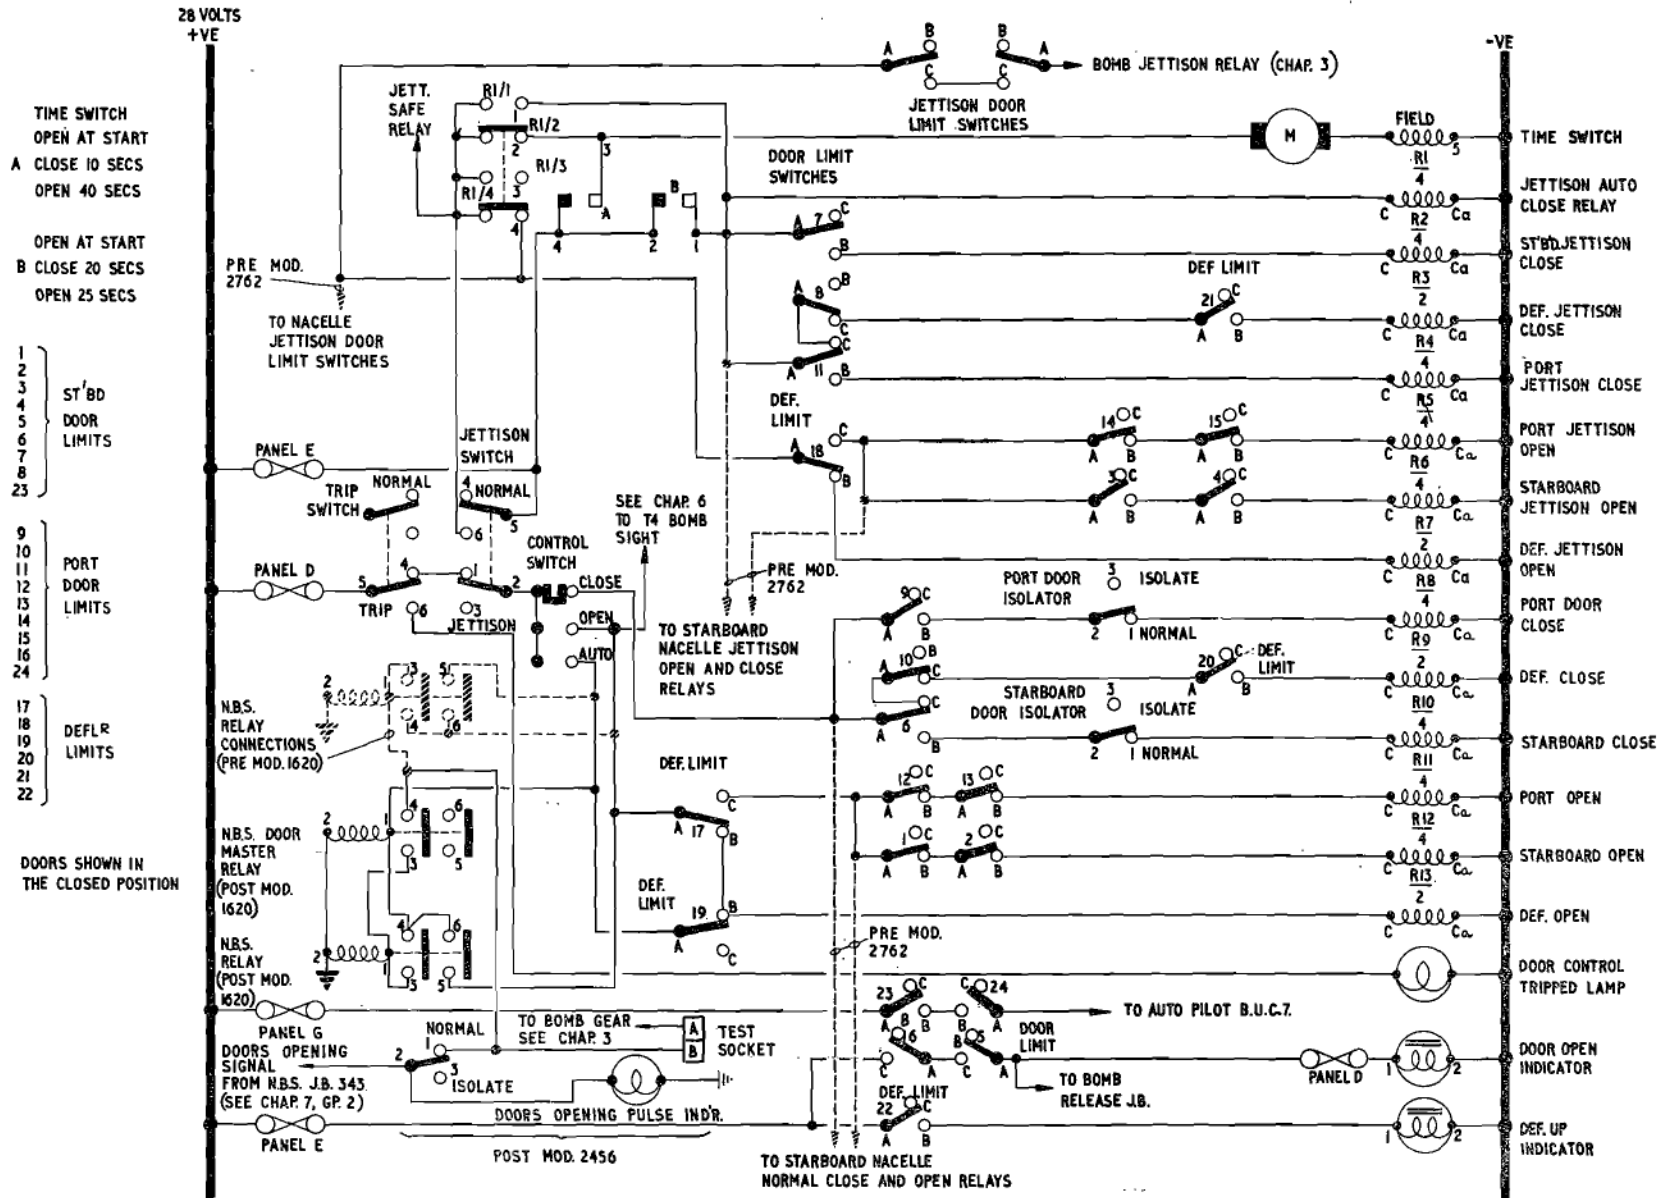
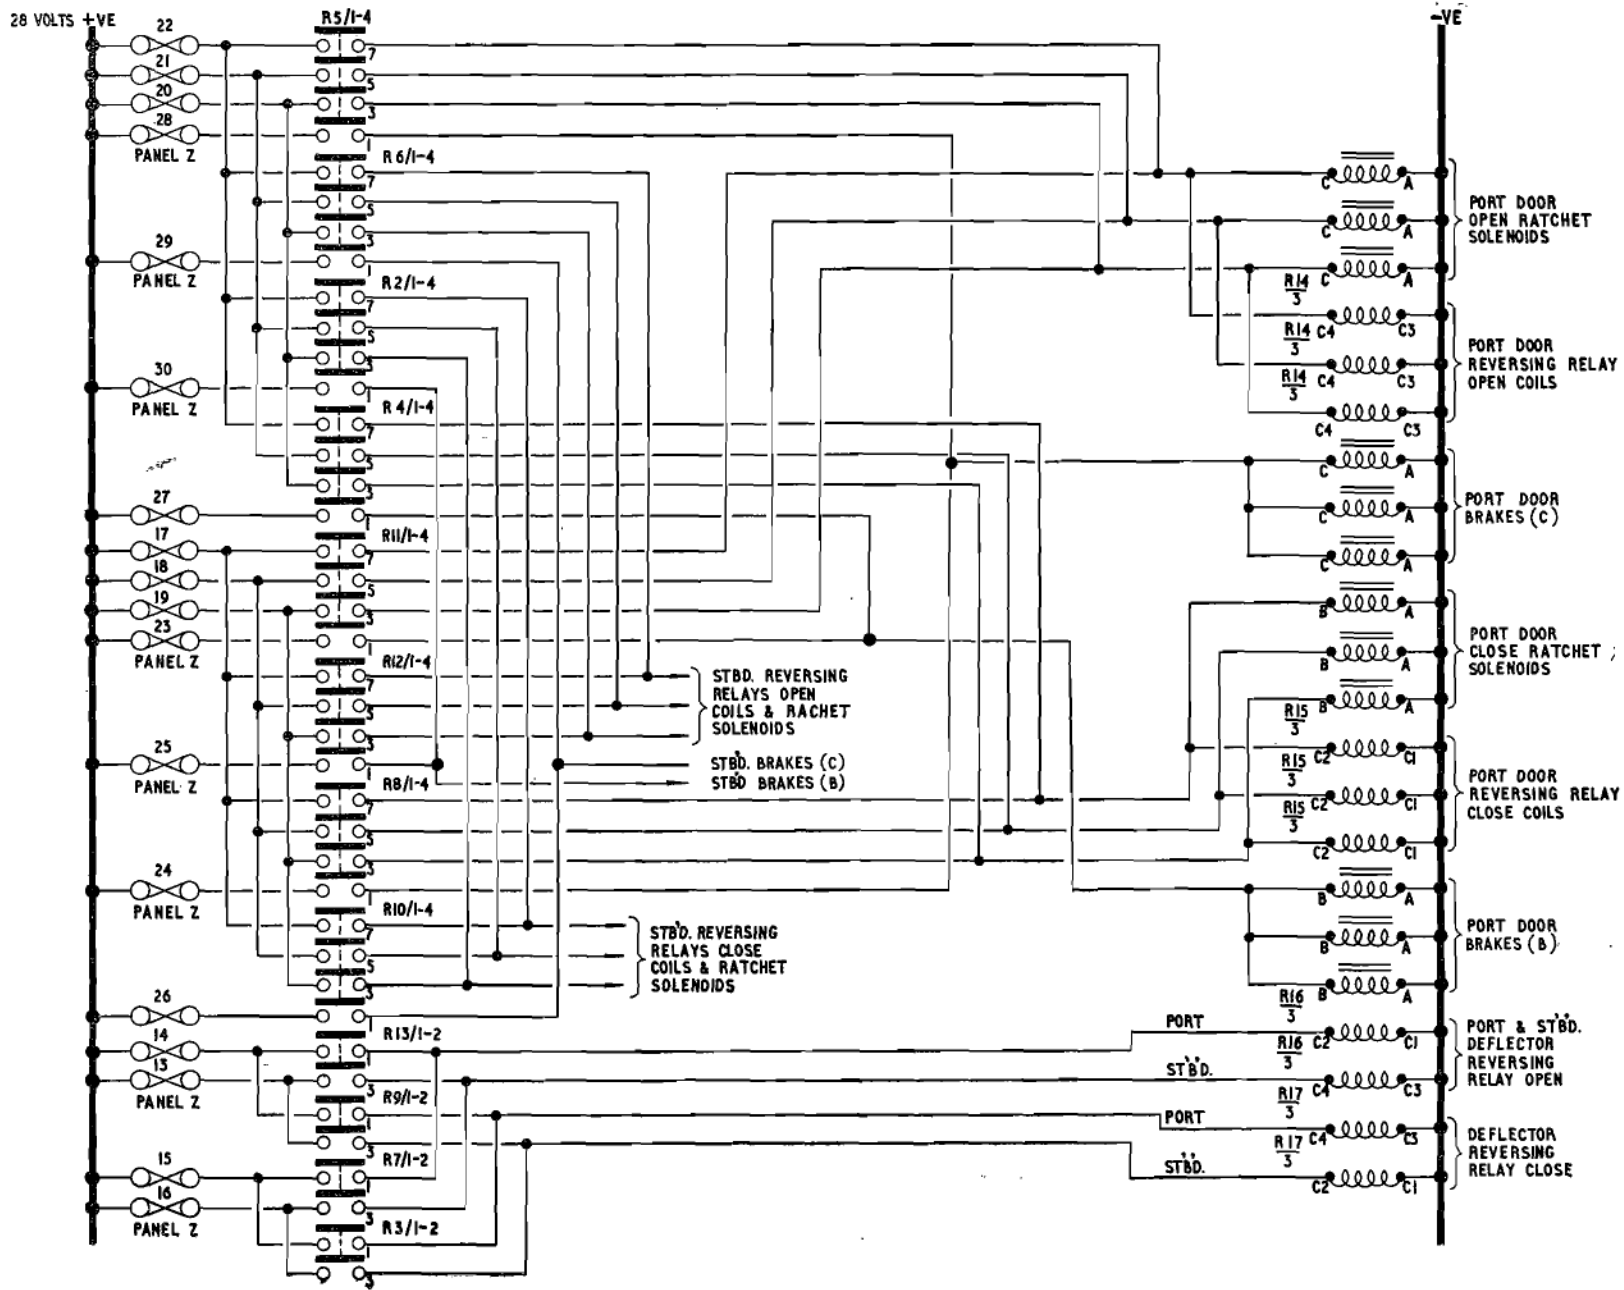
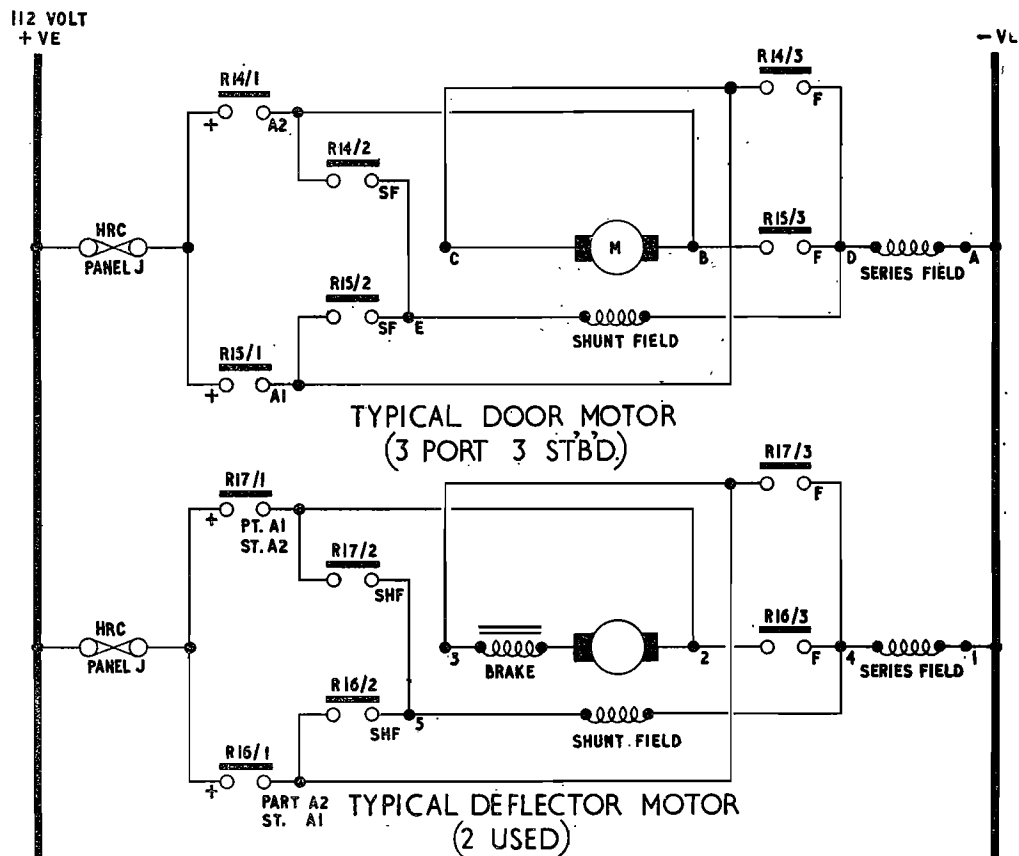

Fig. 1. Bomb bay and wing nacelle door control (pre-Mod. 1520) (1)
Fig. 2. Bomb bay doors control (2)
Fig. 3. Bomb bay doors control (3)
Control (*fig. 1*)
Safety devices (*fig. 1, 4 and 5*)
(*fig. 1 to 3*)
8. Under the condition of normal operation, selection of the door control switch to OPEN (*fig. 1*) connects a supply from the starboard fuse panel D via the bomb door trip switch and the jettison switch, both in their NORMAL positions, to the operating coil R13 (*fig. 1*) of the deflector normal open relay, Type S2, mounted on the deflector roof beam at the aft end of the bomb bay via, one of the deflector up limit switches (17).
9. The relay operates (*fig. 2*) and connects (R13/1-2) two separate supplies from panel Z, to the 'open' coils of the two deflector motor reversing relays R16 (*fig. 2*) at, the aft end of the bomb bay. The two reversing relays operate (*fig. 3*) and connect R16/1-3 a 112 volt supply from panel J to the motors and their series connected brake solenoids. The brakes are simultaneously released with the starting of the motors.
10. The motors now operate and raise the deflector until it reaches its up position, when the deflector up limit switches (*fig. 1*) will change-over. Thus a supply from the port fuse panel E will be connected (switch 22) to the deflector position indicator on the control pedestal.
11. The original supply from the bomb door control switch will now be connected, switches 17, (and 17A, post Mod. 1520) to, the operating coils R11, R12 (*fig. 1*) of the two fuselage bomb door normal open relays, Type S4, mounted one in each of the bomb doors, via two series connected pairs of closed up limit switches, 12, 13 and 1, 2 respectively.
12. The fuselage bomb door normal open relays operate (R11/1-4, R12/1-4) (*fig. 2*) connecting supplies from panel Z to the 'open' coils of the door motor reversing relays R14 (*fig. 2*) mounted three in each of the doors. At the same time, supplies from panel Z are connected to one set of the duplicated door motor brake solenoids (pin B), (*fig. 2*) thus releasing the brakes, and 'to open' ratchet solenoids.
13. The motors will now operate, opening the fuselage bomb doors until they reach the limits of their travel, when the fuselage doors will open their up limit switches 1 and 2, 12 and 13 (*fig. 1*) disconnecting the supplies to the normal open relays (R11 and R12), which in turn, disconnect (R/11/1-4,
R12/1-4) (*fig. 2*) the supplies to the open coils of the reversing relays R14 and to the brakes, thus the motors are disconnected from their supplies and the brakes are applied.
14. Further limit switches 6 and 9 (and 6A post Mod. 1520) (*fig. 1*) will also be operated, completing the circuits ready for closing the doors, interlocking the circuits (switch 10 and 10A post Mod. 1520) so that the deflector cannot close until the doors have closed and connecting (switches 5 and 16), an independent supply, from the star-board fuse panel E, to the bomb release junction box, and, via a fuse on panel D, to the fuselage bomb door open indicator on the control pedestal. Limit switches 23 and 24 connect a supply to the auto-pilot as the doors start to open.
15. When the bomb door selector switch is placed to the CLOSE position, the 28-volt supply is connected to the two fuselage bomb door normal 'close' relays R8 and R10 (*fig. 1*) Type S4, mounted one in each bomb door, via the closed door isolator switches and the door limit switches 6 and 9. These latter switches are set by the doors being in the open position.
16. The fuselage bomb door normal close relays operate (R8/1-4 and R10/1-4) (*fig. 2*) connecting supplies from panel Z to the 'close' coils of the door motor reversing relays R15 (*fig. 2*). At the same time supplies from panel Z are connected to the other set of the duplicated door motor brake solenoids (pin C), thus releasing the brakes, and to the 'close' ratchet solenoids.
17. All the reversing relays (*fig. 3*) will operate together, connecting their respective motors to their 112-volt supplies. The motors will now run in reverse, closing the fuselage bomb doors.
18. When the doors reach the closed position the limit switches (*fig. 1*) will change over completing the circuits ready for opening the doors, disconnecting the supplies to the fuselage doors open indicator and the bomb release system and disconnecting the supplies to the doors normal 'close' relays (R8 and R10). Operation of these relays (*fig. 2*) will disconnect the supplies (R8/1-4, R10/1-4) to the fuselage motor 'close' brake solenoids and the 'close' coils of the door normal reversing relays R15, which disconnect the door motors (*fig. 3*) and brake solenoids from their supplies, thus stopping the motors and applying the brakes.
19. Other fuselage door limit switches close the supply (switch 10 and 10A post Mod. 1520) (*fig. 1*) from the selector switch to the deflector normal close relay R9, to connect supplies to the 'close' coils of the two deflector motor reversing relays R17 (*fig. 2*), which will then connect the motors and brake solenoids (*fig. 3*) to their 112-volt supplies, thus releasing the brakes and starting the motors in reverse to lower the deflector.
20. When the deflector reaches its down position, limit switches are operated, switch 20 (*fig. 1*) disconnecting the supply to the deflector normal close relay (R9) which, disconnect the supply (R9/1-2) (*fig. 2*) to the 'close' coils of the motors reversing relays (R17).
21. These relays will then disconnect the motors and brake solenoids from their supply (R17/1-3) thus stopping the motors and applying the brakes. Further limit switches (*fig. 1*) are reversed (switches 17 and 19), resetting the circuit for raising the deflector and switch 22 disconnecting the supply to the deflector up indicator.
Auto position (fig. 1)
22. The selection of the door control switch to AUTO (fig. 1) connects the supply from panel D via the bomb door trip switch, the jettison switch, both in their NORMAL position, and the deflector limit switch 19, to the operating coil of the deflector normal 'open' relay R13, which operates and brings about the raising of the deflector as described for normal operation. When the deflector has reached its raised position, the limit switches are operated, switch 17 (and 17A post Mod. 1520) setting the circuit for raising the bomb doors.
23. Pre-Mod. 1620 (fig. 1) the supply from the auto position of the door control switch is also taken to the positive side of the contacts 5 - 6 of the N.B.S. relay, Type Q1, mounted on the radio crate. This relay is energized by a signal from the N.B.S. equipment, a hold-in circuit being made through both its sets of contacts, when closed, from the door control switch. The supply from the door control switch is also connected to the fuselage bomb doors normal 'open' relays R11, R12, via the bomb door limit switches 12, 13 and 1, 2, respectively, and the deflector limit switch 17 (and 17A post Mod. 1520) set by the deflector being in the raised position. This relay closes its contacts 3 - 4 so that the signal from the N.B.S. equipment can get through to and energize the coil of the N.B.S. relay; contacts 3-4 connect the supply from the door control switch to its coil as a hold-in supply and contacts 5-6 connect the signal and the supply from the door control switch to the fuselage bomb doors normal 'open' relays R11 and R12, via the deflector limit switch 17 (and 17A post Mod. 1520) set by the deflector being open and the door limit switches 12, 13 and 1, 2 for port and starboard doors respectively.
Pre-Mods. 2364 and 2484 (fig. 1)
close relay is also connected to the deflector jettison open relay R7 (*fig. 1*), mounted at the aft end of the bomb bay, via a deflector up limit switch 18. The relay operates (R7/1-2) (*fig. 2*) and connects two supplies from panel Z to the 'open' coils of the deflector motors reversing relays R16.
31. The fuselage bomb door jettison 'open' relays operate (*fig. 2*), connecting (R5/1-4), R6/1-4) supplies from panel Z to the open coils of the door motor reversing relays R14 to one set of the door motor brake solenoids (pin C) and to the 'open' ratchet solenoids.
32. All the reversing relays operate together (*fig. 3*), starting the motors, to open the bomb doors, and operating the limit switches as described for the normal condition, except that further up limit switches are operated (*fig. 1*), disconnecting the supplies to the jettison 'open' relays (switches 3, 4, 14, 15) hence stopping the motors and also setting the circuit to the jettison close relays ready for closing the door (switches 7, 8, 11 and 8A, 11A, post Mod. 1520).
33. The bombs will be jettisoned automatically as the doors reach the open position as stated above. Whilst the bomb doors have been opening, the time switch has been operating and it closes its contact B (*fig. 1*), 20 secs. after it has started. This allows sufficient time for the doors to open and the bombs to be jettisoned. When contact B closes, it connects the supply
from the jettison switch to the operating coil of the auto-close relay R1 (*fig. 1*), which operates and closes a set of contacts.
35. The fuselage bomb door jettison 'close' relays operate (R2/1-4, and R4/1-4) (*fig. 2*), to connect supplies from panel Z to the 'close' coils of the door motor reversing relays R15, to the other set of door motor brake solenoids (pin B) and to the 'close' ratchet solenoids.
36. All the reversing relays operate together, starting the motors, closing the doors and operating the limit switches as described for the normal condition. The limit switches 7 and 11 for this jettison requirement disconnect the supplies to the door jettison 'close' relays R2 and R4 (*fig. 1*) thus stopping the motors, disconnecting the supplies to the bomb jettison relay, and switch 8 (and 8A post Mod. 1520) connects the supply from the auto-close relay, R1, via deflector limit switch 21, to the deflector jettison close relay R3 (*fig. 1*), which connects supplies to the 'close' coils of the deflector motor reversing relays R17 (*fig. 2*). These relays operate to start the motors which close the deflector as, described for the normal condition. When the deflector is closed, limit switch 21 (*fig. 1*) disconnects the jettison 'close' relay R3, from its supply, thus topping the motors.